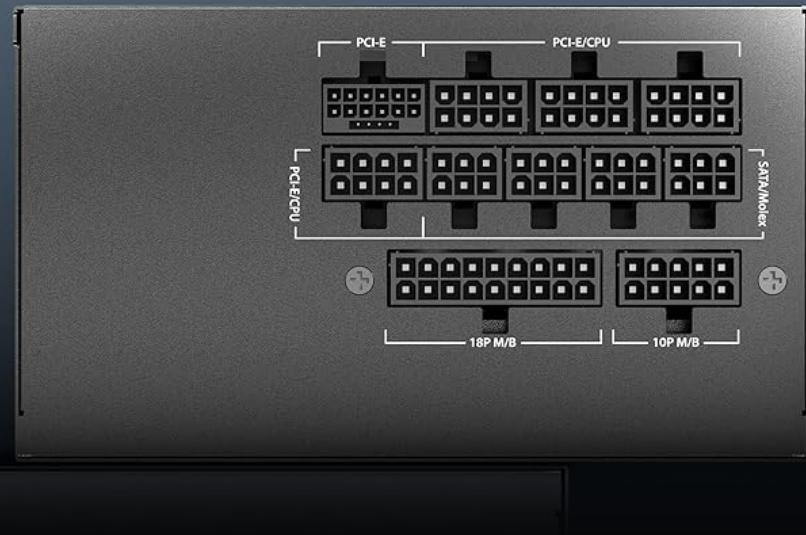

Figure 4.2: Detailed Cable and Connector Information
- 4. Connect Essential Cables:** Refer to Figure 4.2 for cable types and lengths. Connect the necessary modular cables to the PSU first, then to your motherboard and components: